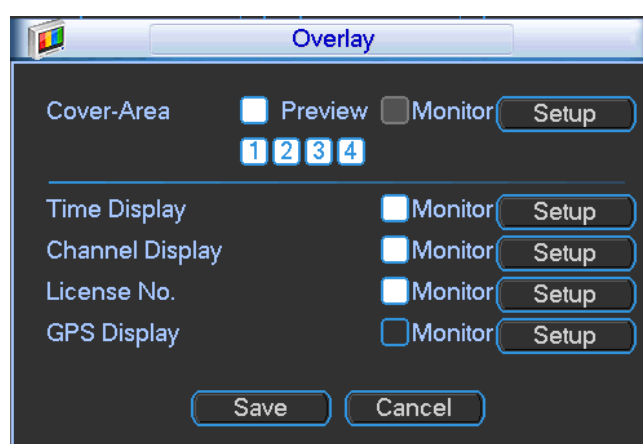

Figure 4-42
- Overlay: Click overlay button, you can see an interface is shown in Figure 4-42. Please note the following overlay titles can not be in the same position. **Please note only the unit of GPS module supports GPS overlay function.**